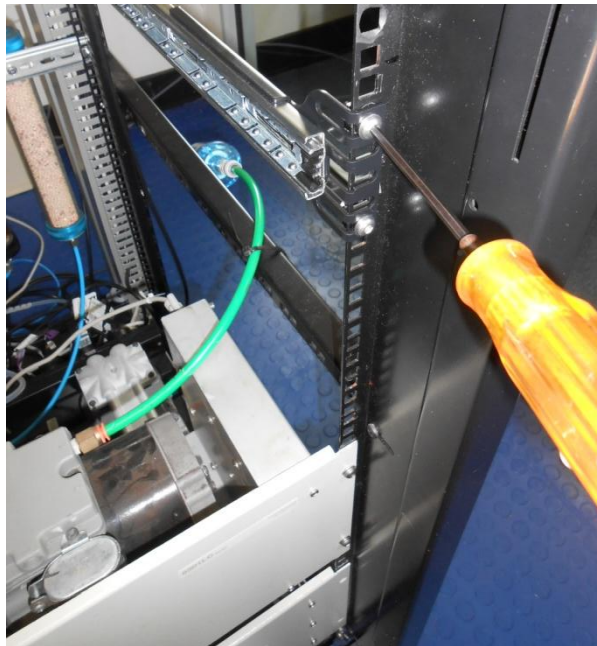

Figure 140 – Attach Slides to Front of Rack
7. Install the two assembled outer slide rails onto the left and right side of the rack securely with M6 bolts; washer and locknuts/cage nuts (refer to Figure 140).